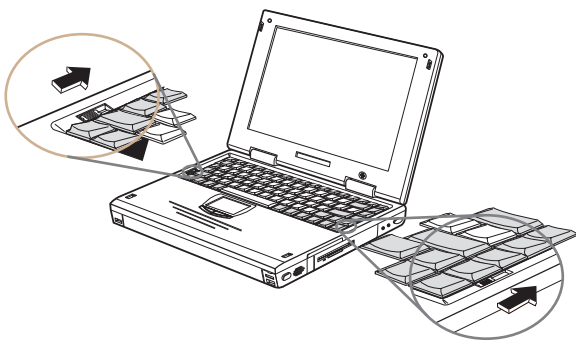
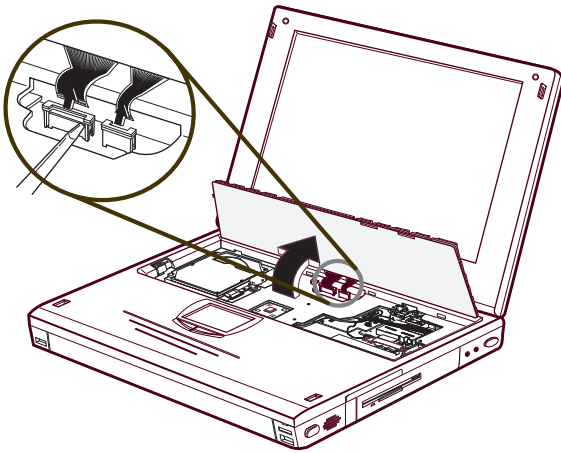

Figure 5-4. Releasing the Keyboard
Figure 5-5. Removing the Keyboard
1. Unlatch the keyboard by sliding the Keyboard latches toward the LCD display (Figure 5-4).
Be careful not to damage the flat cables that connect the keyboard to the notebook computer (Figure 5-5).
3. Release the keyboard cables from the connectors and slide the cables out of the connectors (Figure 5-4).
1. Remove the keyboard (Figure 5-4 and 5-5).
3. Remove the Keyboard (Figure 5-4, Figure 5-5).